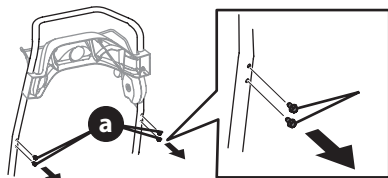

Figure 10
1. Remove the hex washer screws (a) from the back of the handle (two on each side) (Figure 10).